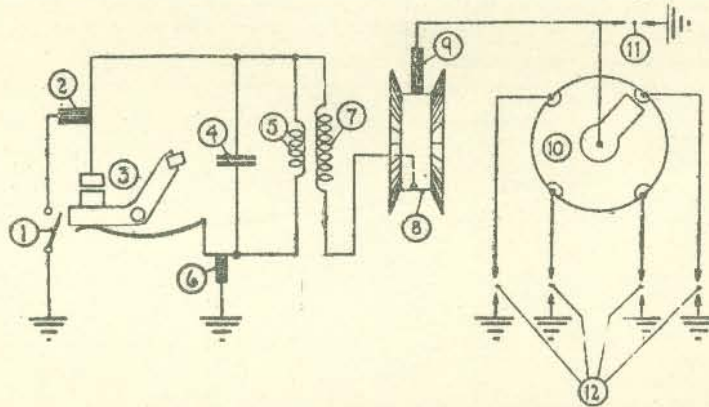
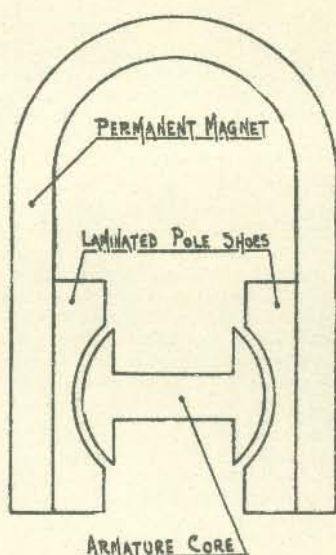

FIG. 1.—Magneto circuit—electrical.
FIG. 2.—Magneto circuit—magnetic.
2. **Magnetos.**—(i) The spark which ignites the mixture occurs at the sparking plug, the high voltage required being produced by a magneto. Fig. 1 shows the electrical circuit of the "rotating armature" type magneto, and fig. 2 shows its magnetic circuit. The primary winding, consisting of roughly 200 turns of enamelled copper wire (about 26 g.), and the secondary winding, consisting of several thousand turns of very fine enamelled copper wire (about 40 g.), are both wound upon the laminated iron armature core (which is of the special section shown in fig. 2), with suitable insulation and binding. The armature core is fitted with end-plates carrying